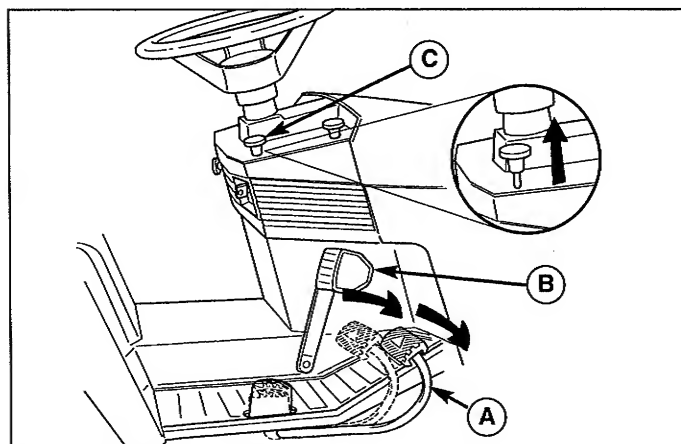

Figure 3. Cruise Control Function
Applying the Cruise Control - See Figure 3. To apply the cruise control, depress the forward ground speed pedal (A) until the desired speed is achieved. Then pull up on the parking brake / cruise control knob (C) and release the forward ground speed pedal (A).
Releasing the Cruise Control - See Figure 3. The cruise control can be released three ways: